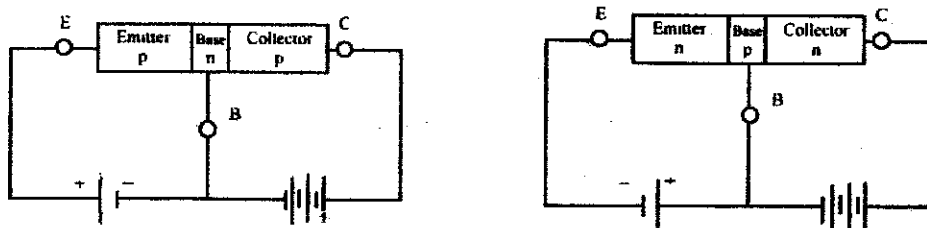

Fig. 34.17 : (a) Biasing of p-n-p transistor (b) Biasing of n-p-n transistor
- iii) The section on one side of the base that supplies the charge carriers (electrons or holes) is called the *emitter*. For proper functioning of a transistor, the emitter is always forward biased with respect to the base (Fig.34.17).
- iv) The section on the other side of the base that collects the charge carriers is called the *collector*. The collector is always reverse biased with respect to the base (Fig.34.17).